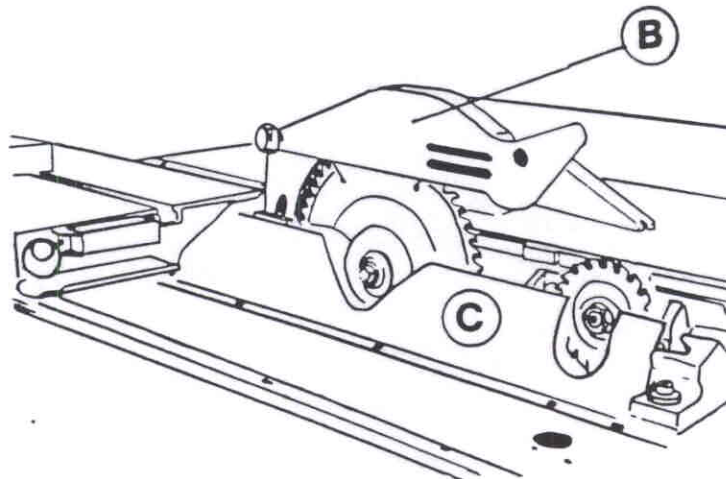

Fig.20
After fitting the saw blade, fit hood (B fig.20) and bottom cover (C)